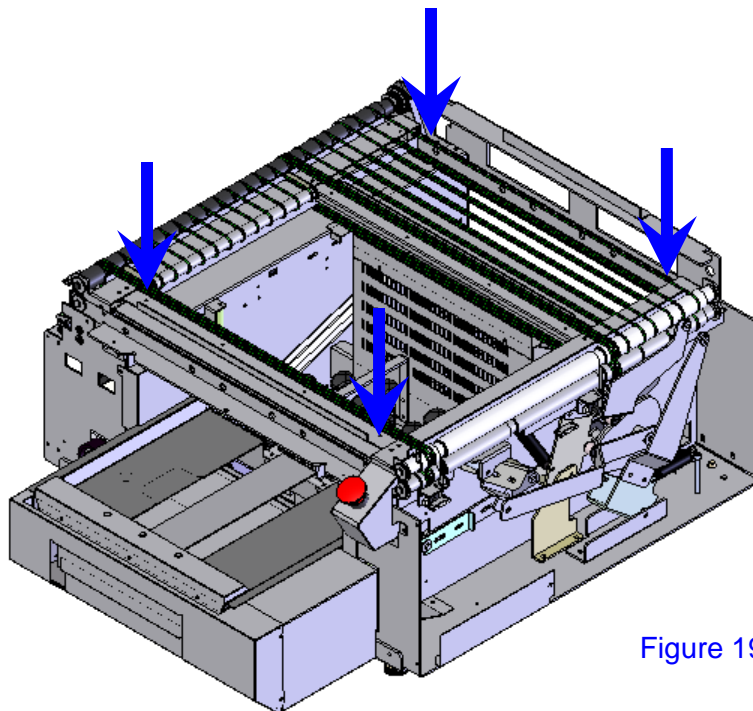

Figure 19.
23. Remove four bolts (7mm) indicated by the blue arrows. See Figure 19.